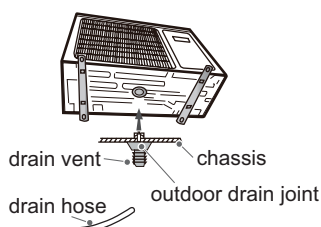

Fig.18
2. Connect the drain hose into the drain vent.(As show in Fig.18)